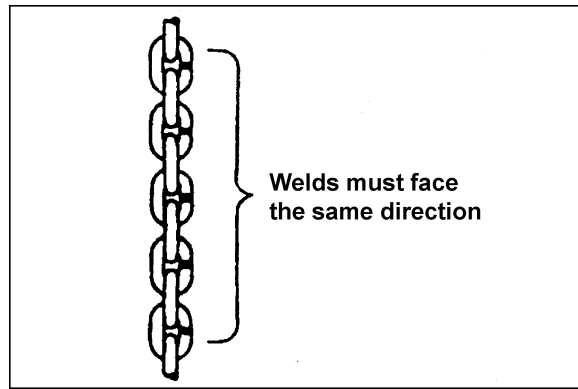

Figure 3
5. Check that the chain is not twisted at the bottom hook. All welds should face the same direction (Figure 3).